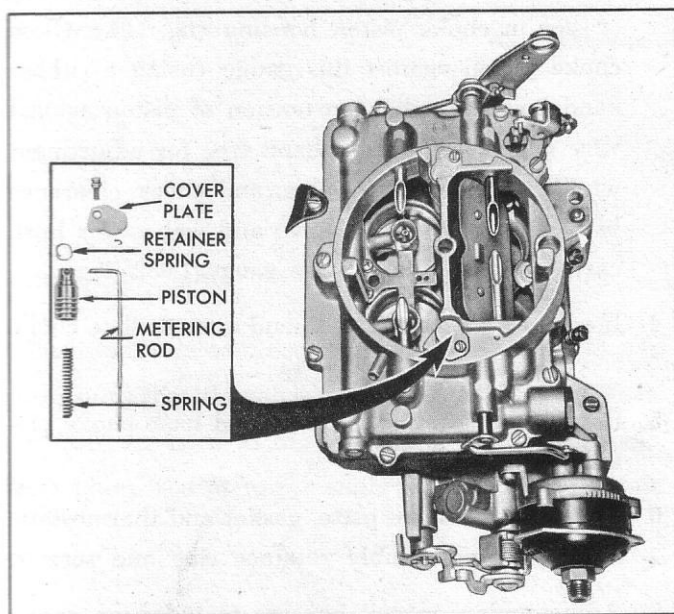

Fig. 95—Metering Rod Removal
3. Remove step-up piston cover plates, pistons and metering rods (fig. 95).
4. Remove screws holding two step-up position cover plates to air horn and remove cover, piston, step-up rod and spring (fig. 95).